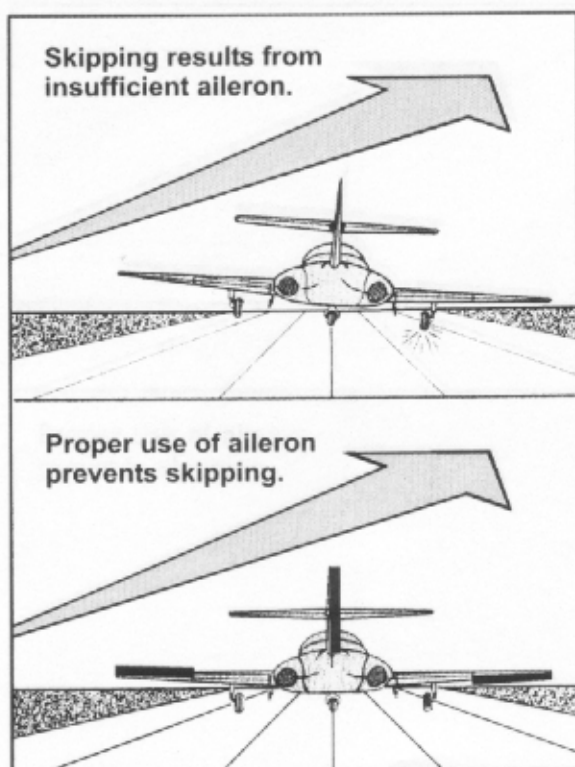

Figure 4.1. Skipping on Takeoff.
4.4.1.3. If the upwind wing rises and exposes more impact surface, a skipping action may result (figure 4.1). This is a series of very small bounces caused by the aircraft attempting to fly on one wing and then settling back onto the runway. During these bounces, the crosswind will move the aircraft sideways and the bounces will develop into side skipping. This skipping imposes stress on the landing gear which could result in materiel failure. In addition, the tendency of the aircraft to weathervane is increased.